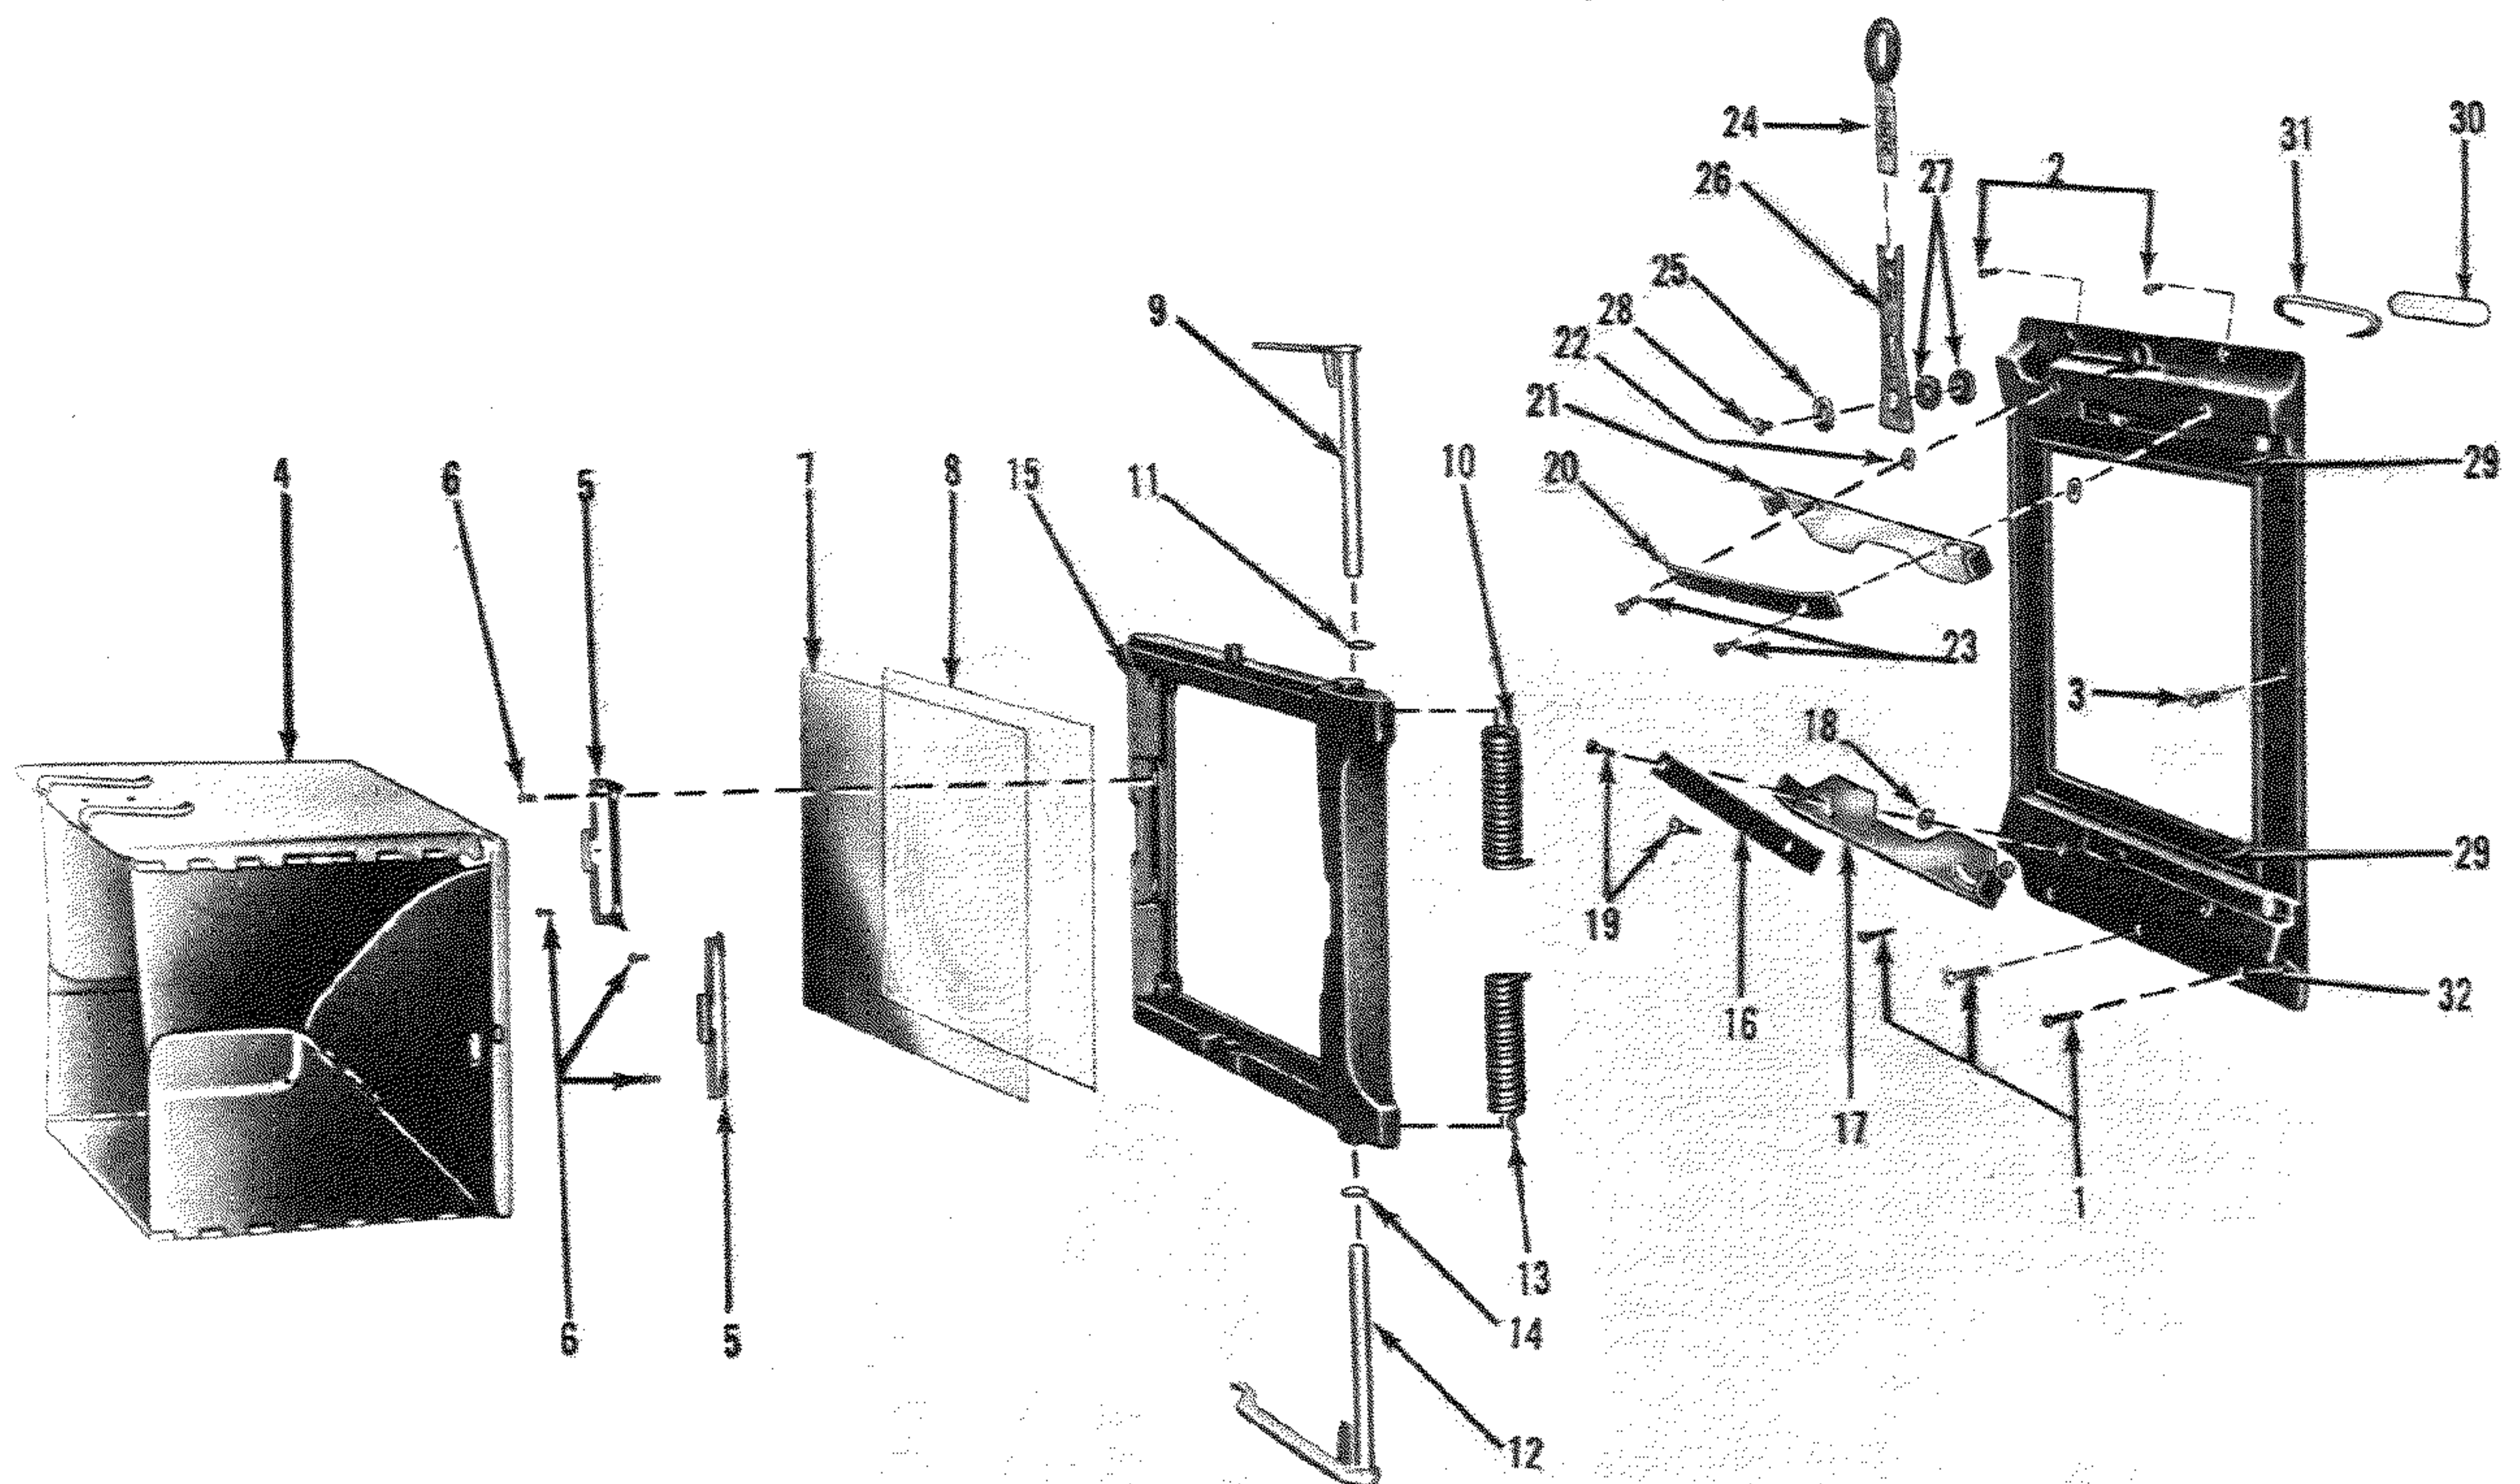

Figure 16. Graflok Back and Hood Assembly
A. GRAFLOK CAMERA BACK - DISASSEMBLY (Figure 16)
1. Remove the focusing panel frame complete by simultaneously pressing the knurled finger pads of the upper and lower arm assembly (9 and 12) and sliding the frame (15) to the right, free of the arm hooks.
2. Remove the long self-tapping screws (2) at the bottom and short self-tapping screws at the top (3) and one wood screw (4) at the right side.
3. Remove the hood assembly (1) by pressing outward on the tab of the hood retainer (5).
4. Remove the focusing screen (6), Ektalite screen
(7) and the two retainers (5) secured by four machine screws (8).